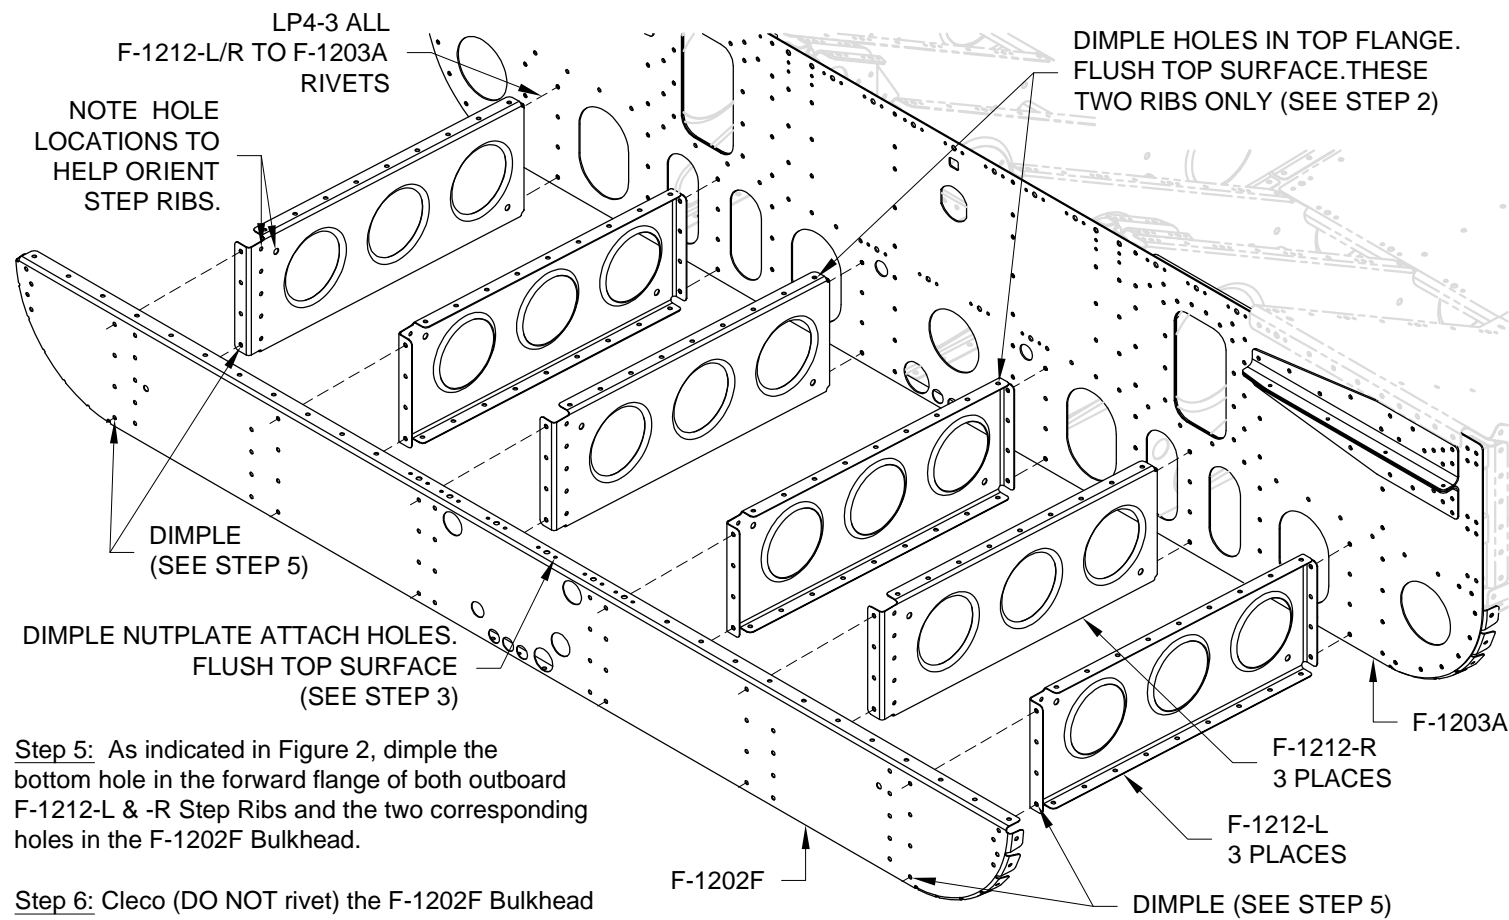

FIGURE 2: RIVETING THE STEP RIBS
Step 2: Dimple the holes in the top flange of both inboard F-1212-L & -R Step Ribs indicated in Figure 2.
Step 4: Rivet the F-1212-L & -R Step Ribs to the F-1203A Bulkhead using the rivets called out in Figure 2.